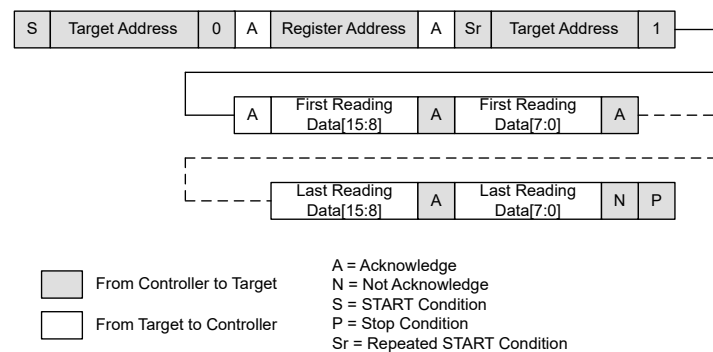
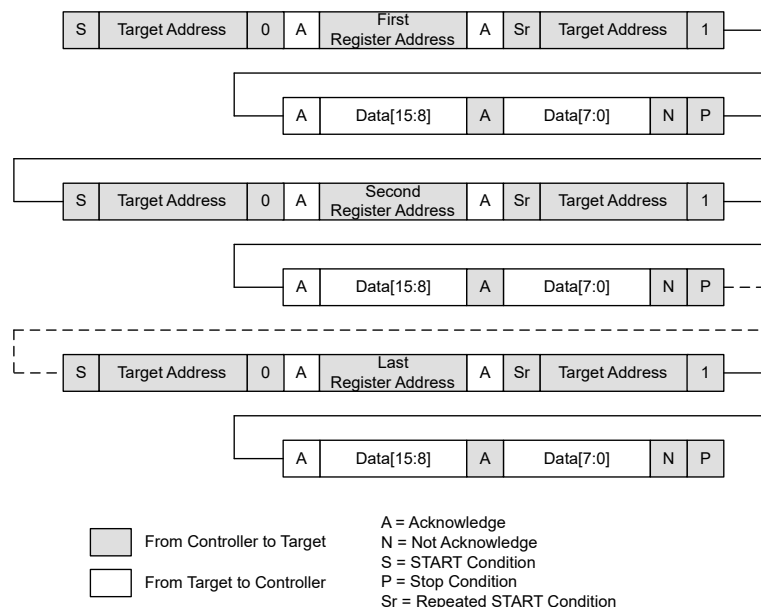

Figure 7-24. Read Same Register Multiple Times
Figure 7-25. Read Multiple Registers Using the *Reading Single Word From Any Register* Method
7.5.1.5.4 Reading Multiple Registers (Figure 7-24 and Figure 7-25)
Figure 7-24 and Figure 7-25 illustrate the process for this protocol. Steps for this protocol are: